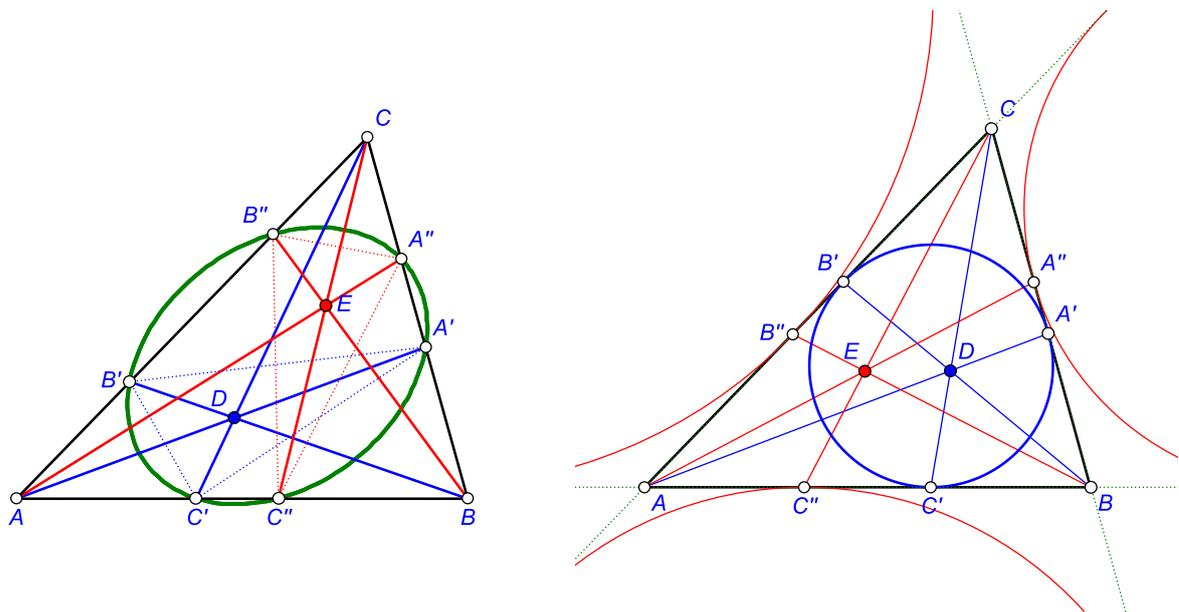

Figure 15
It is well known that in a given triangle ABC the vertices of the cevian triangles of any two different points D, E (not laying on the sidelines of ABC) are conconical (Figure 15, left)⁶. We consider the case of two particular points: the Gergonne point (D) and the Nagel point (E) of a given triangle ABC. The Gergonne point of ABC is the point of concurrence of the line segments connecting the points where the incircle of ABC touches the sides with the opposite vertices. Similarly, the Nagel point of ABC is the point of concurrence of line segments connecting the points where the excircles touch the sides of ABC with the opposite vertices (Figure 15, right)⁷.